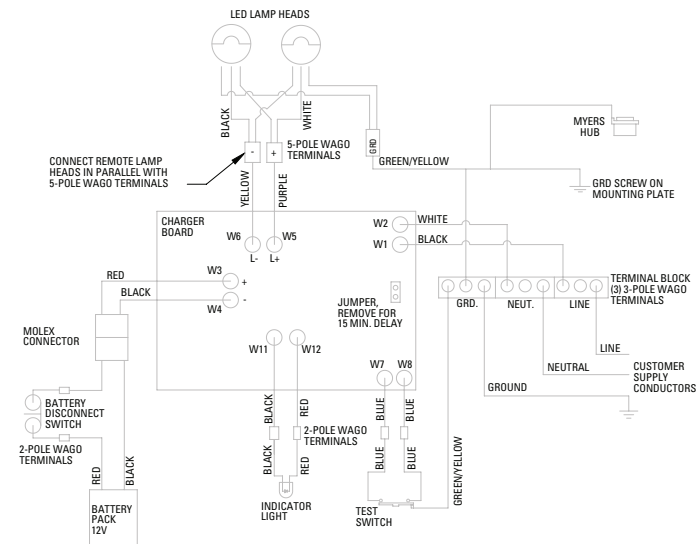

Figure 1. Wiring Diagram
3. Loosen (do not remove) the six (6) captive cover screws of the N2LPSM2 power supply housing and carefully place the cover aside for reassembly later.
4. Remove four (4) 1/4-20 screws and lock washers that secure the mounting plate to the enclosure, and disconnect wire leads at the pilot light, battery pack, pushbutton and lamp heads. If the unit utilizes the external battery disconnect switch option, disconnect the battery disconnect switch leads from the battery output at the WAGO connectors.
7. Install the new interior assembly inside the existing enclosure using the same four (4) 1/4-20 screws and lock washers removed in Step 4. Torque screws to 21-25 in.-lbs.
8. Make all wiring connections following the wiring diagram located in the new assembly (see Figure 1).